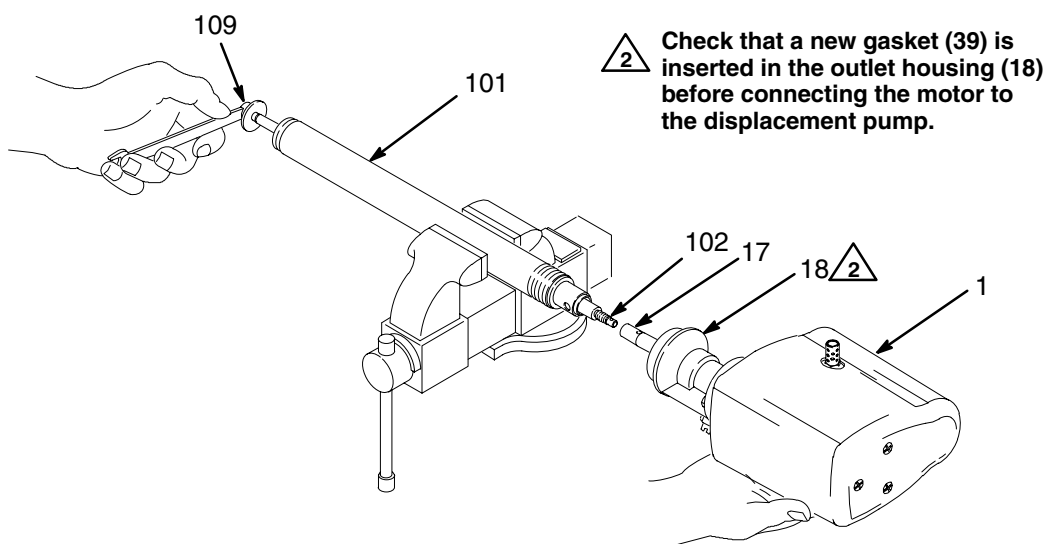

Fig. 8
6. Hold the air motor (1) to prevent it from falling when performing this step. Using a wrench on the nut (109), unscrew the connecting rod (102) from the displacement rod (17) to release the motor. See Fig. 8.
1. Place the displacement pump in a vise, with the jaws on the pump cylinder (101). Position the air motor (1) so the displacement rod (18) engages the threads of the connecting rod (102). Using a wrench on the nut (109), screw the connecting rod into the displacement rod until the pin holes align. See Fig. 8.